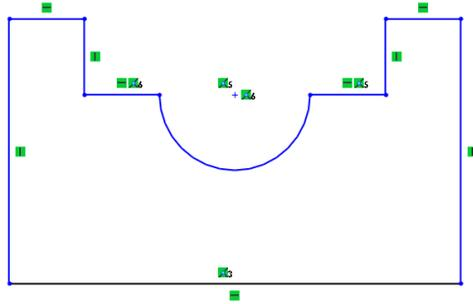
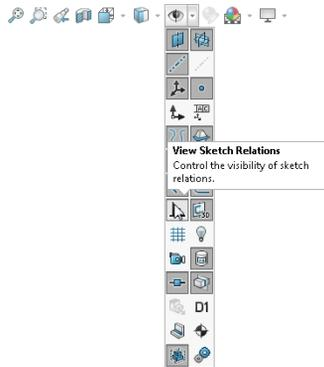

Figure 2-15 Final sketch for Tutorial 1
Figure 2-16 The Hide/Show Items flyout
- Press the F key; the drawing display area is modified and sketch fits into the screen. The final sketch for Tutorial 1 with the grid display turned off is shown in Figure 2-15.
Figure 2-15 shows the relation symbols that are applied automatically while drawing the sketch. To control the display of relations on and off, choose the **Hide/Show Items** button in the **View (Heads-Up)** toolbar; the flyout will be displayed, refer to Figure 2-16. Next, choose the **View Sketch Relations** button which is a toggle button from this flyout.